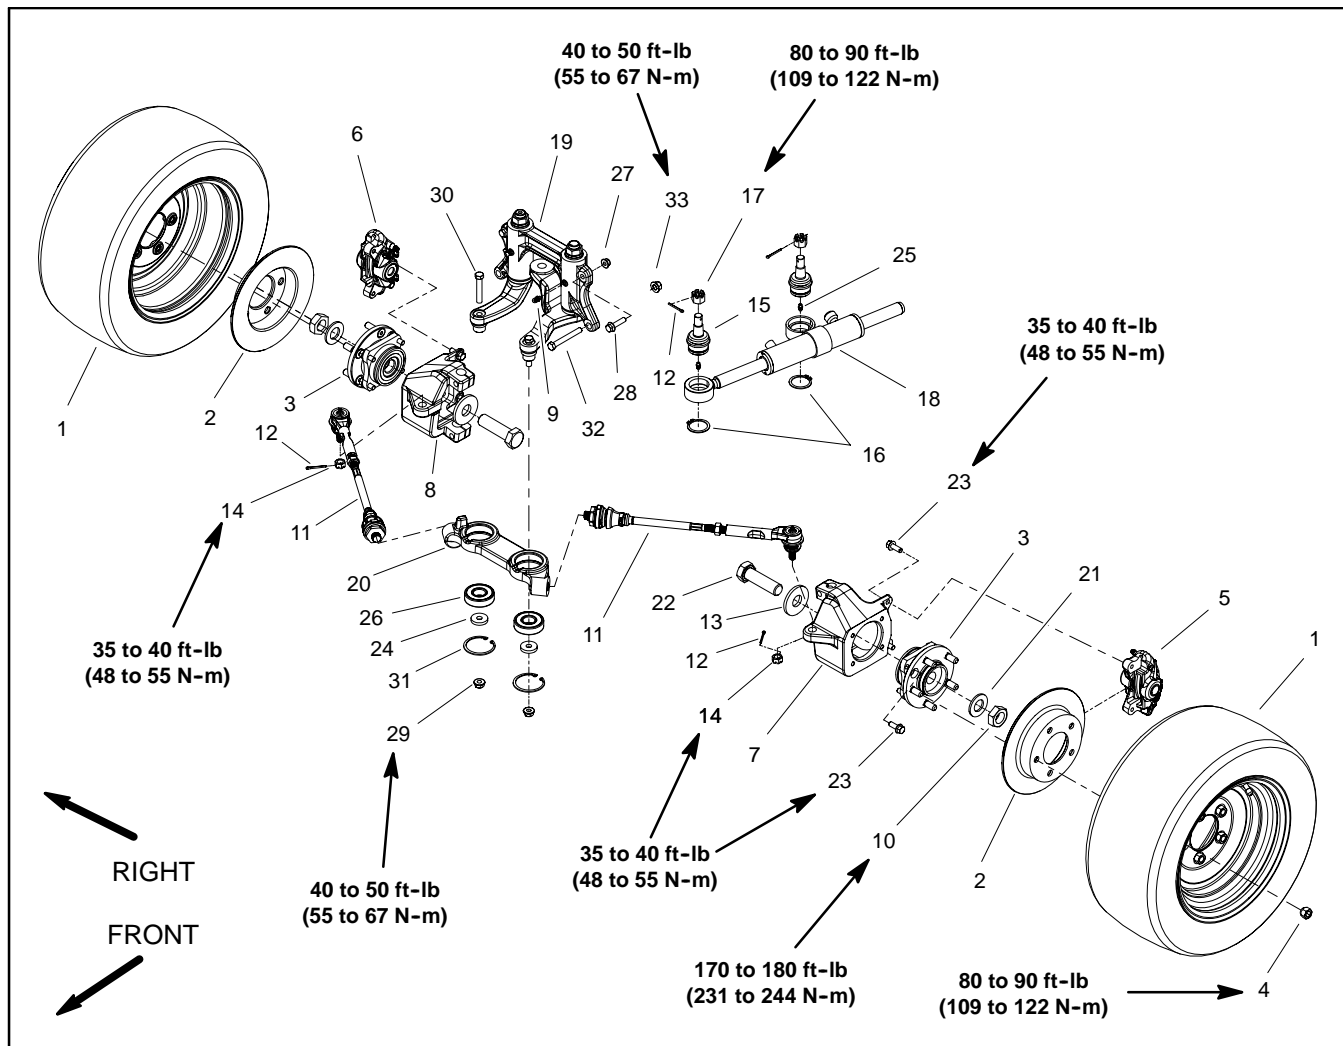
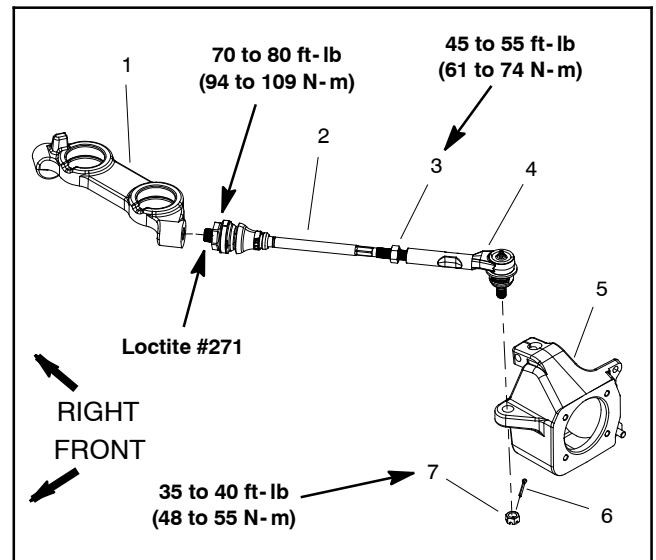

Figure 15
Figure 16
Disassembly (Fig. 15)
2. To remove tie rod (item 11) from vehicle (Fig. 16):
3. To remove steering linkage (item 19) and center link (item 20) assembly from vehicle:
D. Remove fasteners (items 27, 28, 32 and 33) that secure steering linkage and center link assembly to frame. Remove assembly from frame.
E. Disassemble steering linkage and center link assembly as required using Figures 15 and 17 as guides.
Assembly (Fig. 15)
1. If steering linkage and center link assembly was disassembled, use Figures 15 and 17 as guides for assembly.